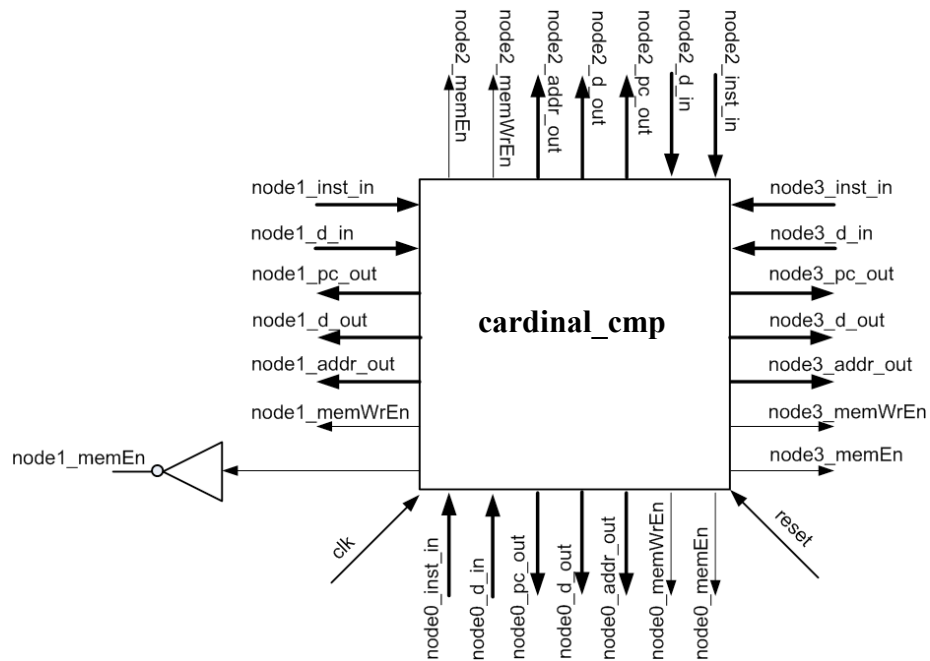

Figure 2: Erroneous Design for Logic Equivalence Verification
- (1) Perform an equivalence check between the RTL (`.v`) and gate level netlist (`.syn.v`). Use the final RTL and resulting netlist from the synthesis step. Follow the instructions in the tutorial for your multiprocessor design and save the result as “`lec_report1.txt`”. If you are unable to attain a positive equivalence result, describe the steps you took to debug your design. Create a file “`lec_report1_summary.txt`” that contains this description. If you attain a positive equivalence result, the file can be empty.
- (2) To see what happens when designs are not equivalent, perform an experiment to manually edit a copied version of the netlist to force it to be erroneous. Edit the synthesized netlist to manually attach an inverter to the `node0_memEn` output. To add an inverter, you need to declare a wire, say `n240` (or some other name that doesn't already exist in the netlist), to replace the original `node0_memEn` output and move `node0_memEn` to the output of that inverter (see Figure 2). Now run Cadence Conformal with the RTL and this erroneous netlist. In this case, the tool will report a non-equivalent result. Save the result as “`lec_report2.txt`”.